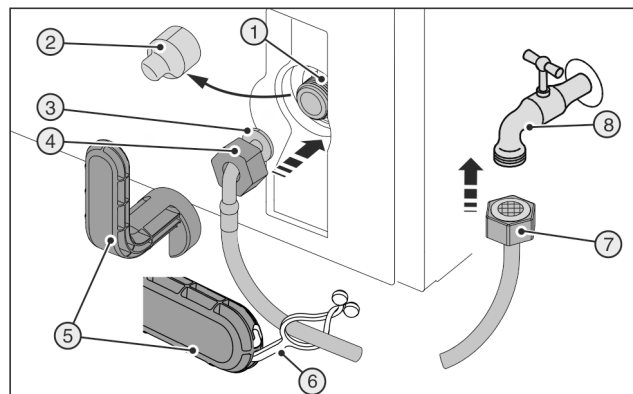
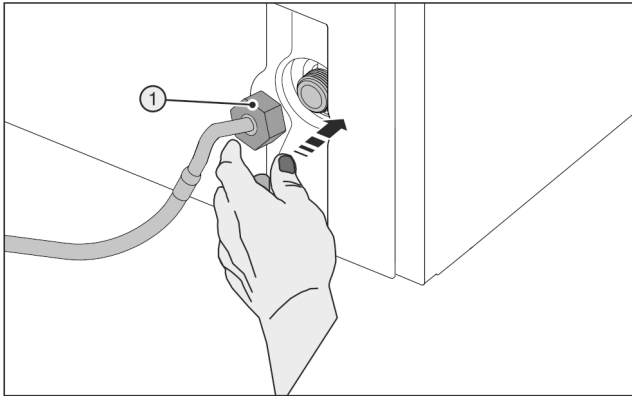

Fig. 51 *
Fig. 52
- Remove the cover Fig. 51 (2).
- ▶ Easy to fit: Place the straight end of the hose *Fig. 51 (7)* to the left on the floor.
- ▶ Slide the nut *Fig. 51 (4)* over the angled end of the hose *Fig. 51 (3)* up to the end and secure.
- ▶ Locate the nut *Fig. 52 (1)* carefully and screw onto the thread.
- ▶ Position the nut *Fig. 52 (1)* carefully and screw it directly onto the thread with two fingers until it is seated securely.
Broken auxiliary tool *Fig. 51 (5)*.
- ▶ Only use an auxiliary tool *Fig. 51 (5)* at room temperature.
- ▶ Tighten the nut *Fig. 52 (1)* clockwise with the auxiliary tool *Fig. 51 (5)* until maximum torque is reached and the auxiliary tool *Fig. 51 (5)* overtightens.
- ▶ Screw the nut *Fig. 51 (7)* onto the stopcock *Fig. 51 (8)*.
- ▶ Tighten the nut *Fig. 51 (7)* clockwise with the auxiliary tool *Fig. 51 (5)* until maximum torque is reached and the auxiliary tool *Fig. 51 (5)* overtightens.
- ▶ Hook the clip *Fig. 51 (6)* into the stopcock *Fig. 51 (8)* and fix it to the stainless steel pipe to store it.
- ▶ Slowly open the stopcock *Fig. 51 (8)*.